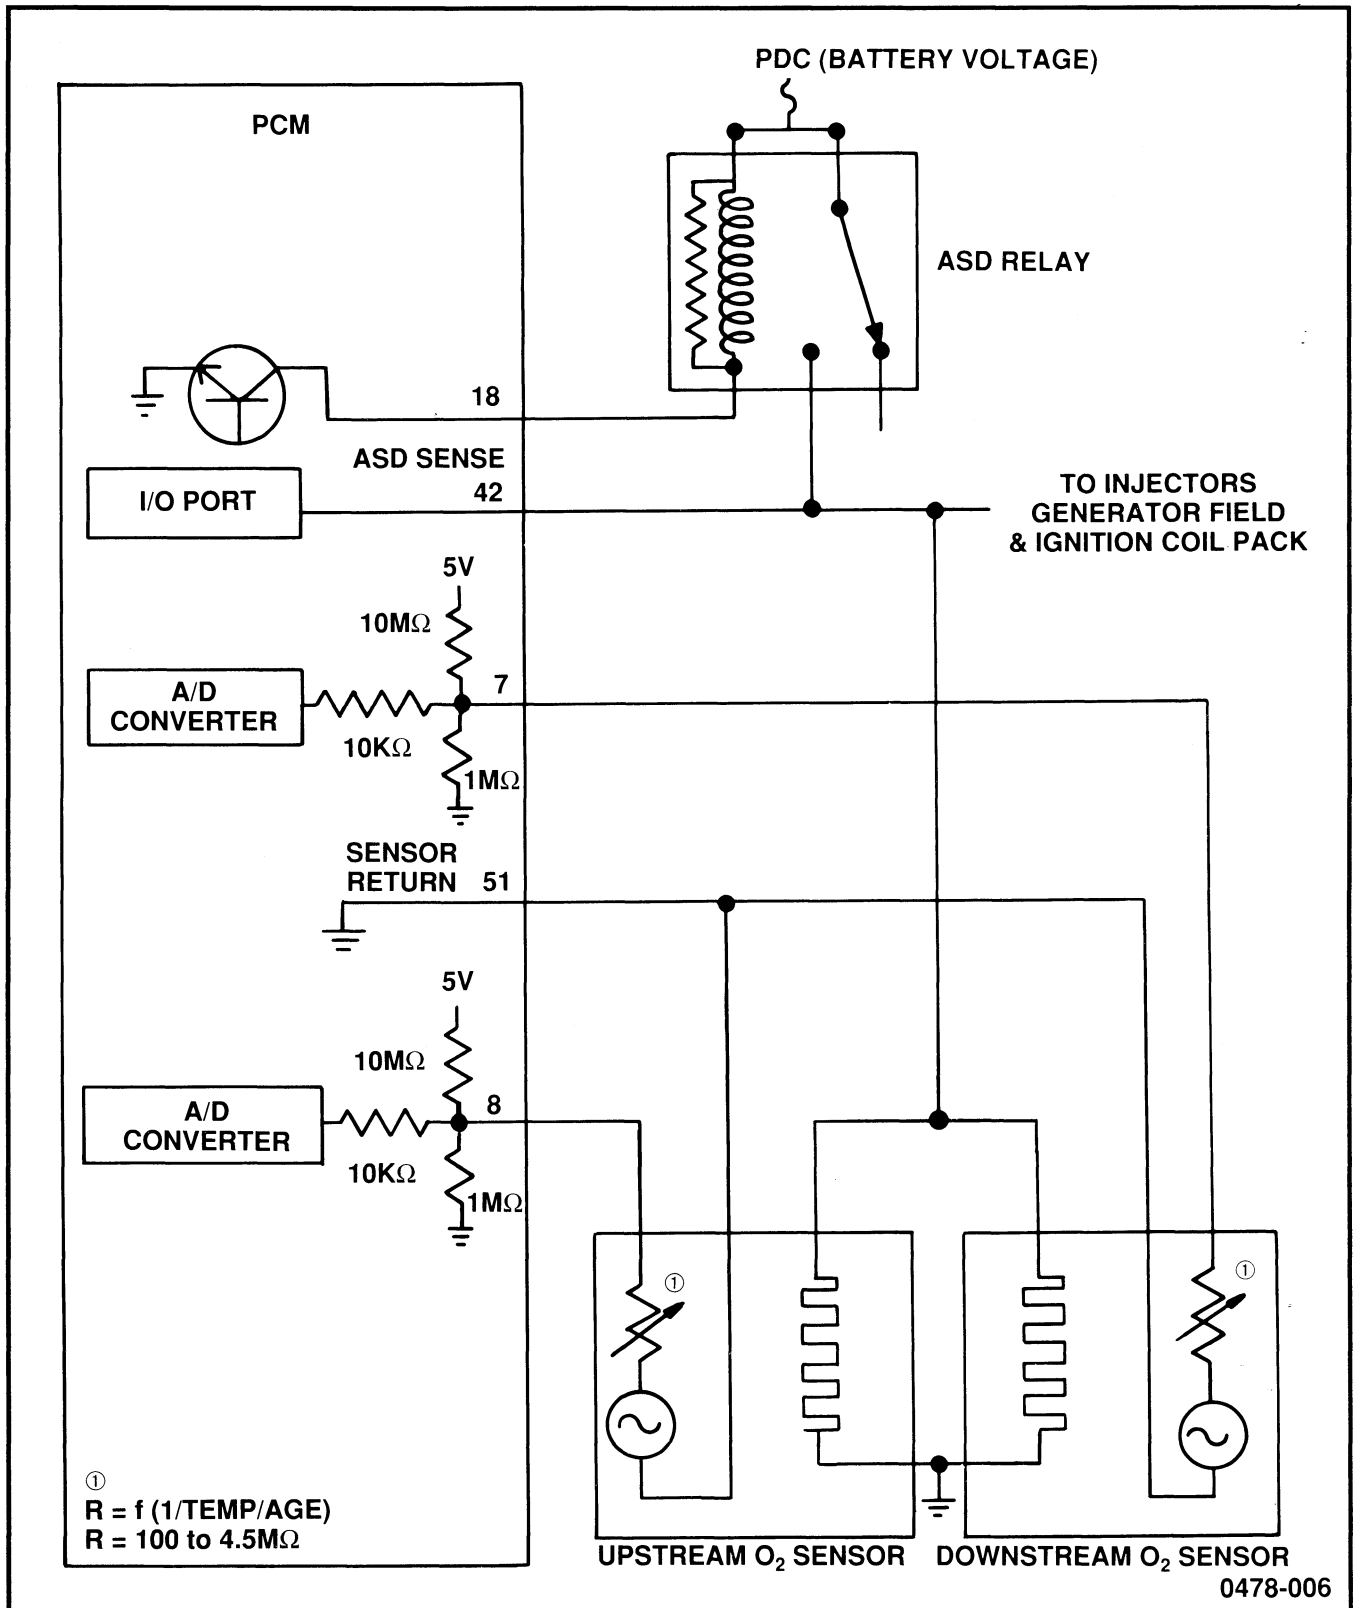

Figure 6 O₂ Sensor Wiring
- Wiring (fig. 6) and harness and connectors
For the O₂ sensor's to function properly, they must be heated to approximately 572°-662° F. To assist the O₂ sensor's in achieving this temperature, they are equipped with Positive Thermal Coefficient (PTC) heater elements. Both the upstream and downstream O₂ sensors' heater elements are fed battery voltage whenever the ASD relay is energized (fig. 6). The ground for the heater elements is routed through the O₂ sensors' 4-pin connectors to an external ground (fig. 6). As current flows through the heater elements, the temperature of the O₂ sensors increase. As the temperature increases, the resistance of the elements increase, causing the current flow to decrease. The O₂ sensors' heaters combined with exhaust gas under most normal conditions, maintain the temperature of the sensors to around 1200° F.